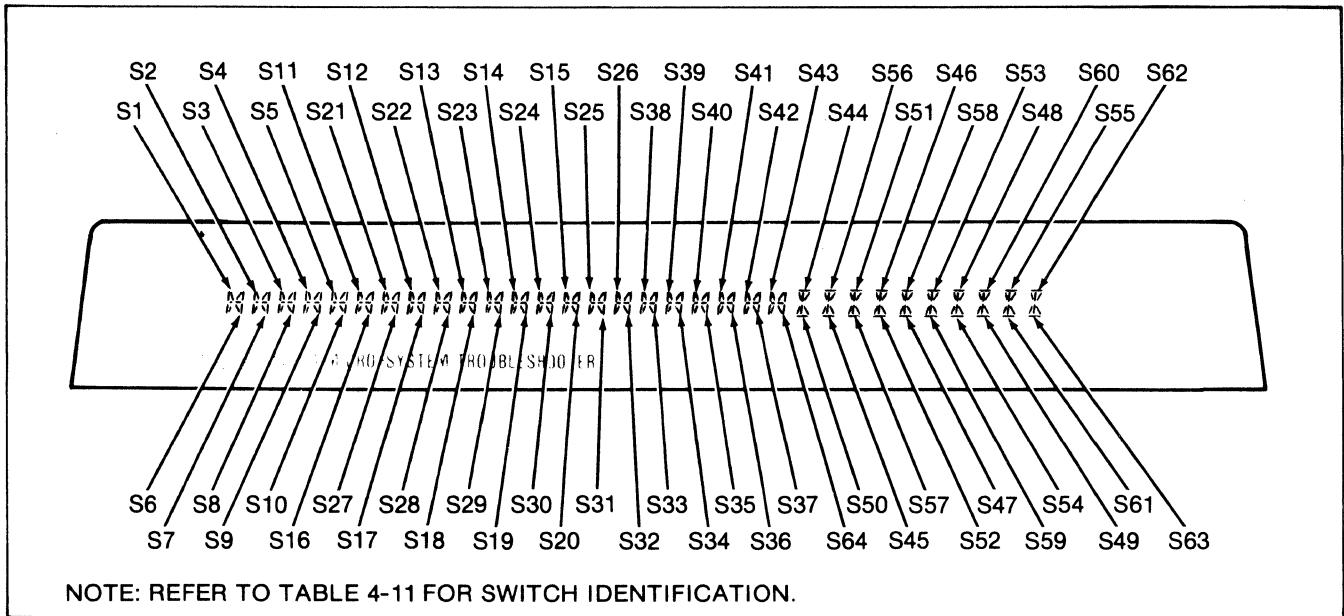

Figure 4-9. Keyboard Test Pattern
4-79. The keyboard test, when initiated, writes the segment pattern shown in Figure 4-9 to the display. Initiate the keyboard test by momentarily jumping TP5 (ground) to TP3 (located on the Display Assembly) or, if the UUT is connected to a tester 9010A, perform WRITE @ 10081 = 00, followed by WRITE @ 10081 = 08. Note the following:
- As each key (except HIGH and LOW) is pressed, the corresponding portion of the display goes out. Pressing all keys results in a blank display. Refer to Figure 4-9 and Table 4-11 for key/switch identification.